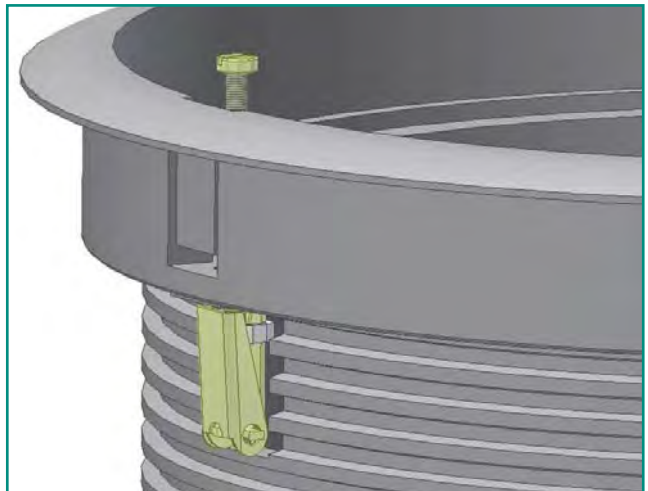

Figure 1: Locate toggle in slot
- 3- Locate the toggle clamp in the slot on either side of the diffuser basket (**Figures 1**).